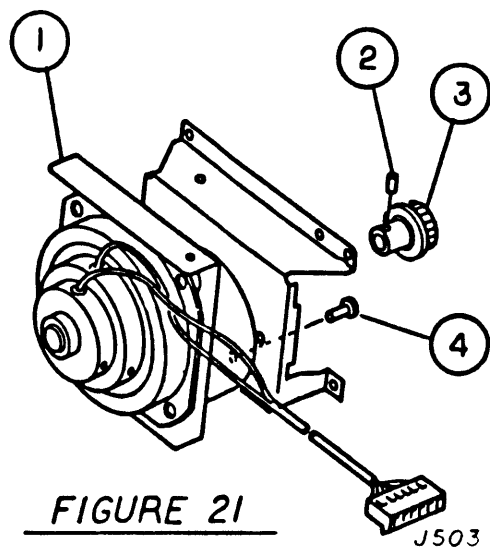

FIGURE 21
□ **LASERWRITER – MAIN MOTOR ASSEMBLY (Figure 21)**